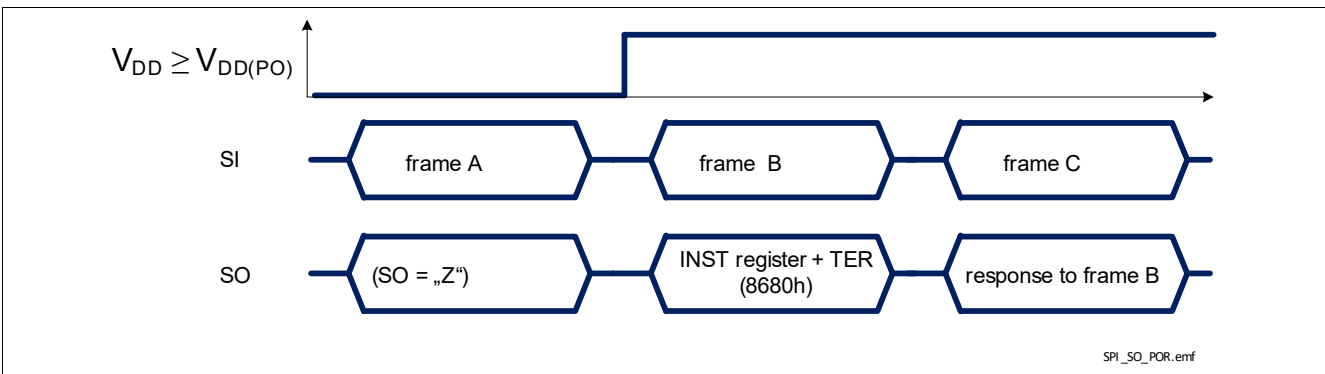

Figure 31 TLE75080-ESD response after coming out of Power-On reset at V_{DD}
- when TLE75080-ESD logic supply comes out of Power-On reset condition or after a Software Reset, as shown in **Figure 31**